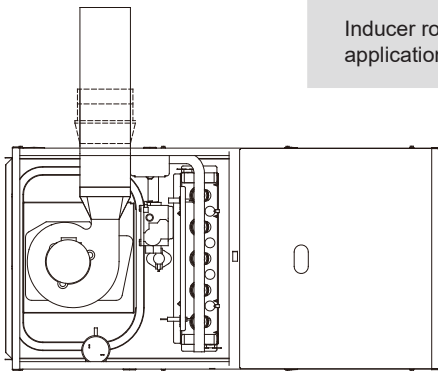

Fig. 6-10 Horizontal Left Application-Vent Elbow Up
- 2) Horizontal Left Fig. 6-10